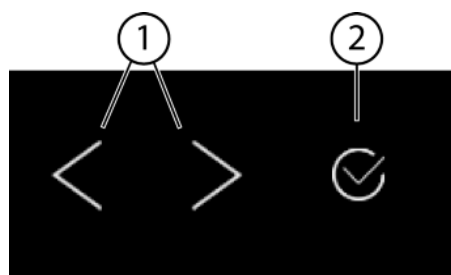

Fig. 5
(1) Left/right navigation arrow
(2) Confirm
Left/right navigation arrow Fig. 5 (1):
Confirm Fig. 5 (2):
- Navigate with the left/right navigation arrow *Fig. 5 (1)*.
- Press Confirm *Fig. 5 (2)* to activate *Fig. 6 (1)* / deactivate *Fig. 6 (1)* the function/setting.
- Press Confirm *Fig. 5 (2)* to go to the submenu *Fig. 7 (4)*.
- Set new level: Press Confirm *Fig. 5 (2)* to select a deselected value *Fig. 6 (1)*.
- Back to menu: Press Confirm *Fig. 5 (2)* to select the selected value *Fig. 6 (2)*.
- Press the navigation arrows *Fig. 5 (1)* until appears.
- Press Confirm *Fig. 5 (2)*.
- Press the navigation arrows *Fig. 5 (1)* until the function appears.
- Use the navigation arrows *Fig. 5 (1)* to select the setting value.
- Press *Fig. 5 (2)* confirm.
- ▶ Press the navigation arrows *Fig. 5 (1)* until Settings  appears.
- ▶ Press Confirm *Fig. 5 (2)*.
- ▶ Press the navigation arrows *Fig. 5 (1)* until you can see the setting you want.
- ▶ Press Confirm *Fig. 5 (2)* for 3 seconds.